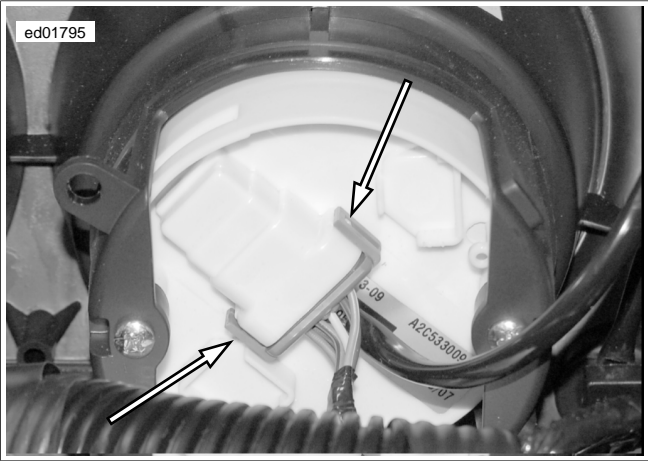

Figure 2-6. Speedometer Connector [39]
1. See Figure 2-6. Release the external latches and disconnect connector [39B].